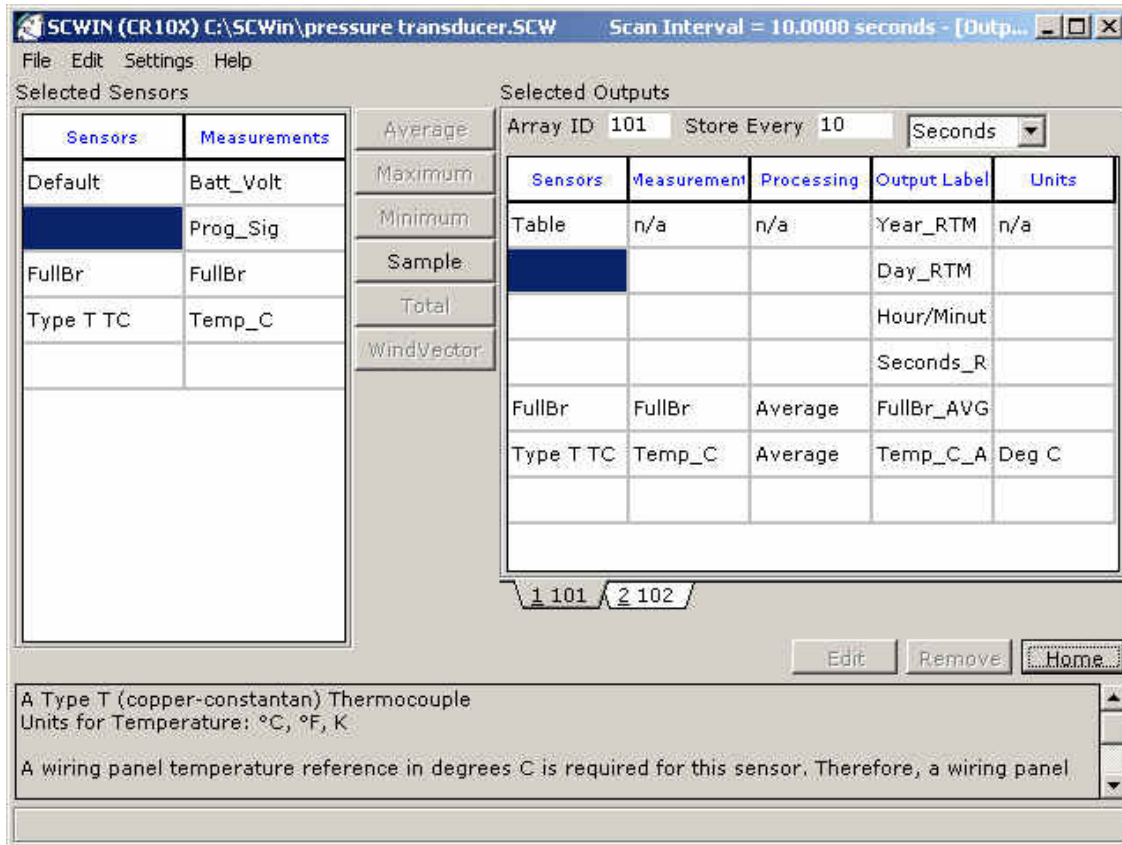

Fig. 13 Definition of output for transducer and thermocouple
- From the home screen click “Output”. Choosing output preferences will be similar to Example 1. Select transducer by clicking on “FullBr” under “Selected Sensors” and then place it in the “Selected Outputs” file by choosing “Average”. Repeat this process for the thermocouple. Then under “Selected Outputs” specify the desired data storage interval in seconds or minutes. This should look like Fig 13. Click “Home” to return to the main menu.